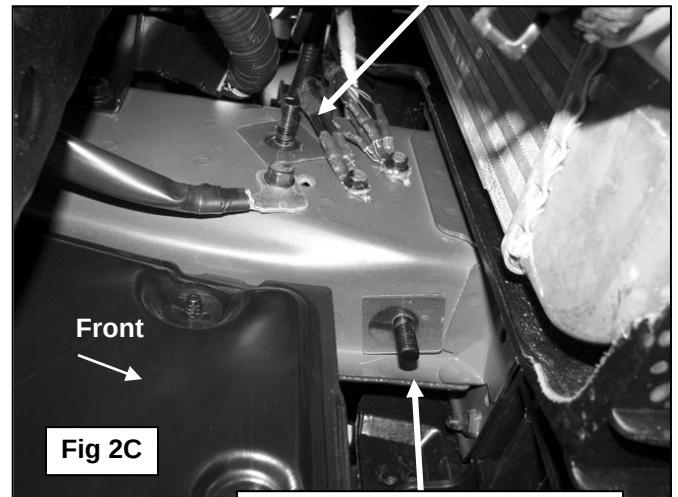

Fig 2C
4. Select (1) 10mm Small Bolt Plate and (1) 10mm Plastic Retainer, **(Figure 2A)**. Partially thread the Retainer onto the Bolt Plate. **IMPORTANT:** The Plastic Retainer is designed to prevent the Bolt Plate from falling into the frame channel and to aid in mounting the Bracket. Insert the Small Bolt Plate into the hole in the side of the frame, **(Figure 2C)**. Thread the Plastic Retainer all the way down until it is against the frame.
5. Repeat **Step 4** to install the Large Bolt Plate, **(Figure 2B)**, in the hole in the bottom of the frame channel, **(Figure 2C)**.